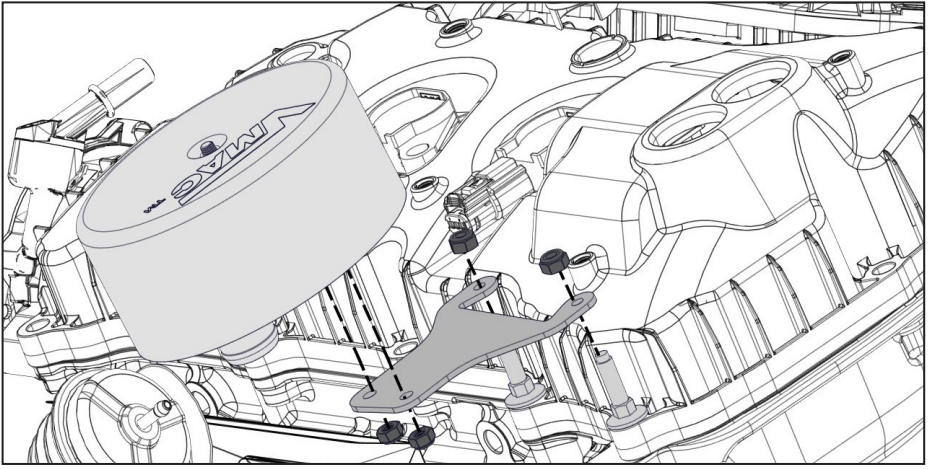

Figure 63 — Air filter
- Using the (x2) bolts securing the OEM A/C charge fitting, secure the air filter in the location shown (Figure 63).